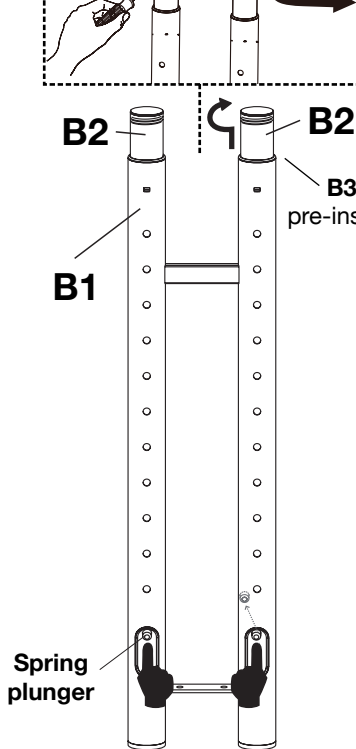

figure 1
- 1 Locate the spring plungers inside the bottom grommet hole of pole **B1** (If your unit has **B5** cross bar pre-installed remove prior). Starting with the right side pole **B2**, push the spring plunger down and pull **B2** up slightly and twist it slightly so that the spring plunger remains offset. This will make adjusting the pole easier. (figure 1)